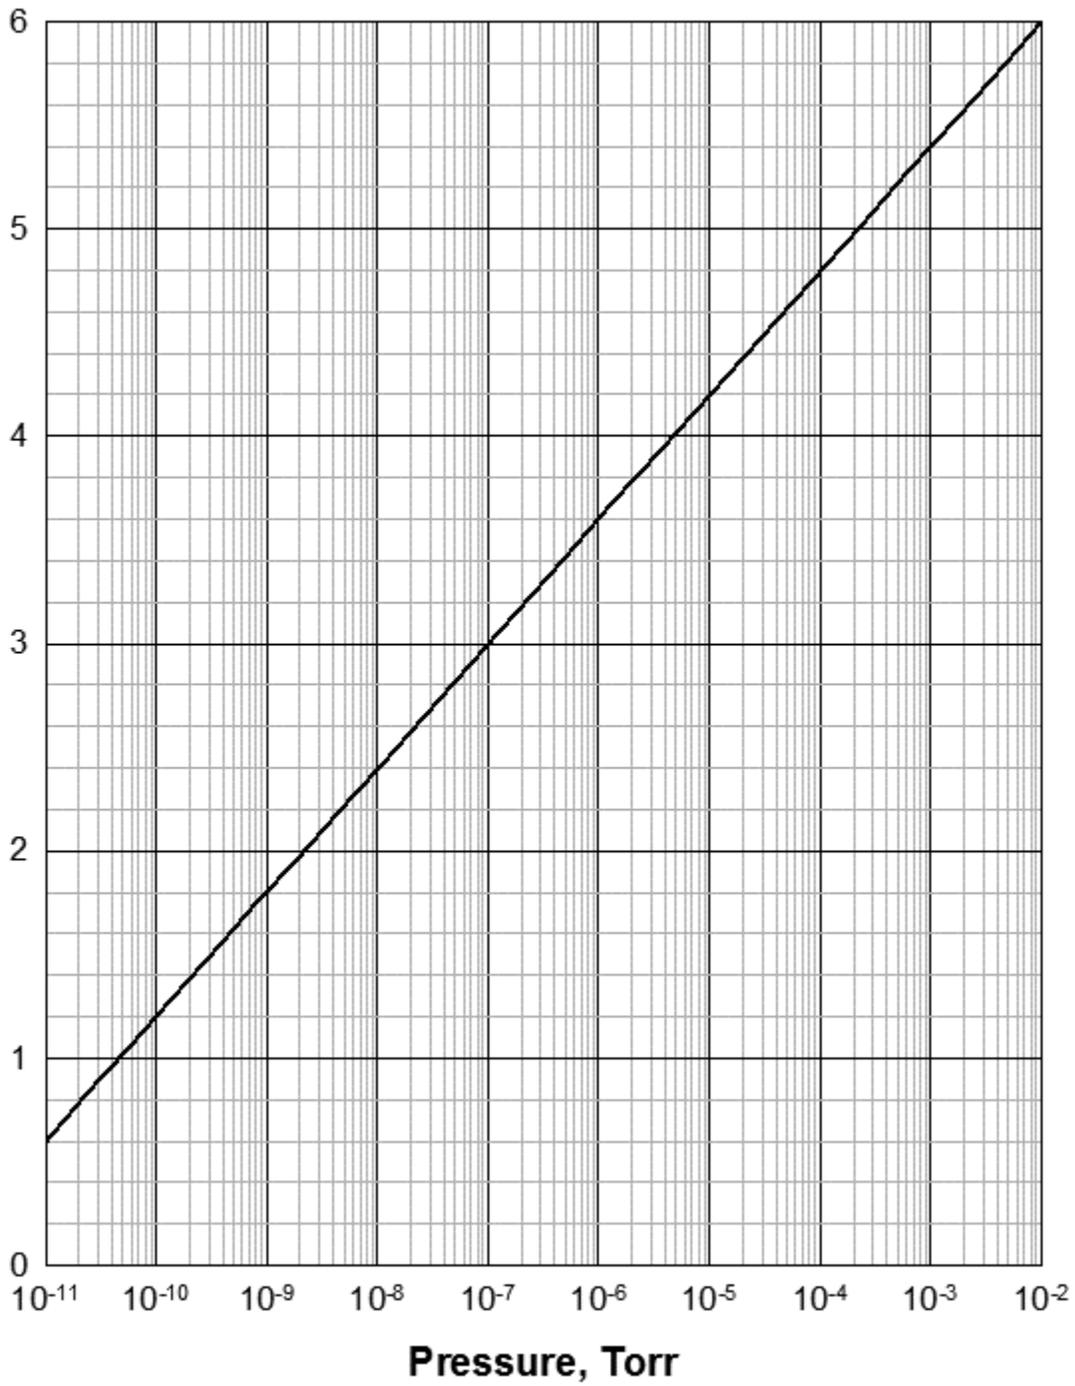

Figure 8-4 Buffered Analog Output for Hot Cathode Sensors
For capacitance manometers, Pirani type or cold cathode sensors, the buffered outputs are analog signals without microprocessor processing. However, the buffered output from a hot cathode sensor at pin 1, 3 or 5 in the table 8-2 is a microprocessor formed output. This is because the hot cathode sensor uses different emission currents to cover the pressure range, necessitating microprocessor scaling. The equation for this output is $V = 0.6 * \log (P) + 7.2$. (see Figure 8-4).